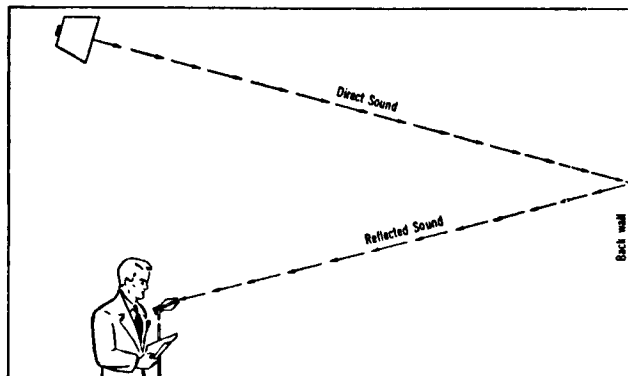

FIG. 3. — TILTING MICROPHONE
4. Acoustic feedback can be further reduced by tilting the microphone to place the null sides in the direction of the interfering sounds. See Figure 3.